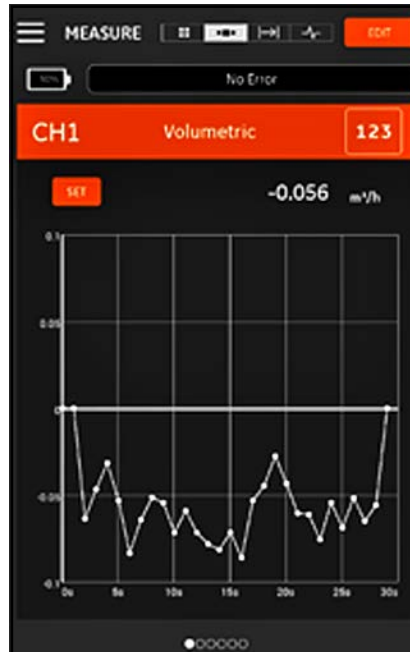

Figure 109: Graph Measurement Screen
- To switch the display to GRAPH mode, click the  icon at the top right of the screen. As shown in *Figure 109 on page 80*, the values of the measurement as a function of time are displayed as a graph.